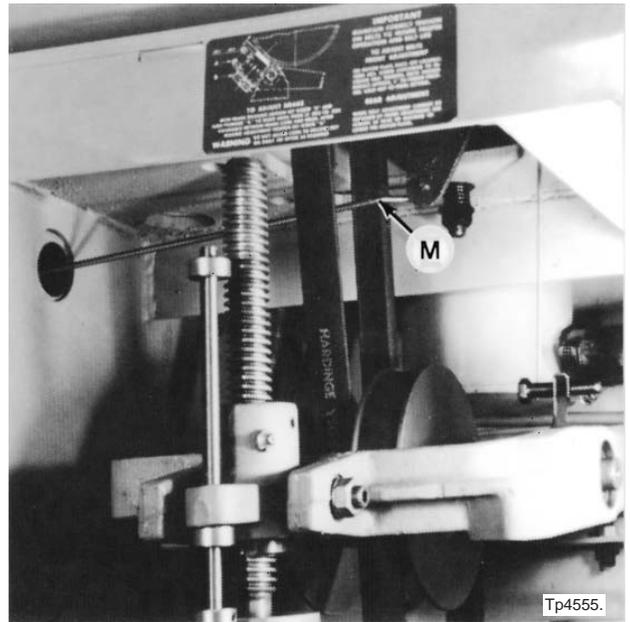

Figure 6.8 - Speed Change Pullrod
19. Remove the cotter pin from the end of speed change pull rod "M", Figure 6.8, which passes through the headstock belt in the motor compartment.